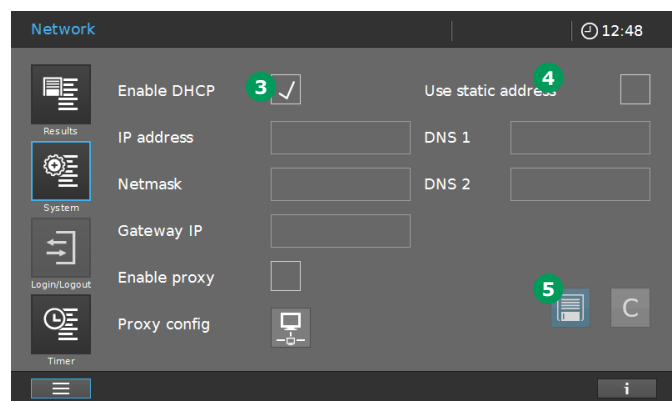

Figure 14 - After clicking on "Network" in the previous window (Figure 13), this window will appear
2. Select "Enable DHCP" **3** (Figure 14) if a DHCP-server is available in the network or select "Use static address" **4** and enter the network parameters (IP address, netmask, gateway, proxy) provided by your system administrator into the configuration menu.